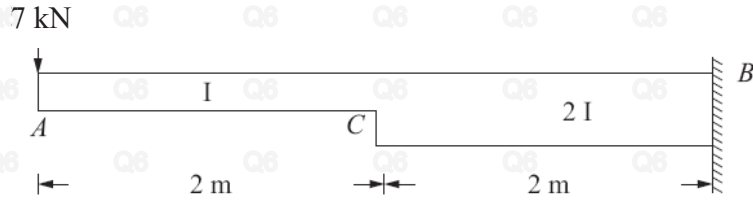

Figure 2
5. Find the slope and deflection at the free end for the beam shown in Figure.2 using Moment-Area method. Take $E = 2.2 \times 10^5 \text{ MPa}$ and $I = 97 \times 10^6 \text{ mm}^4$. [15]